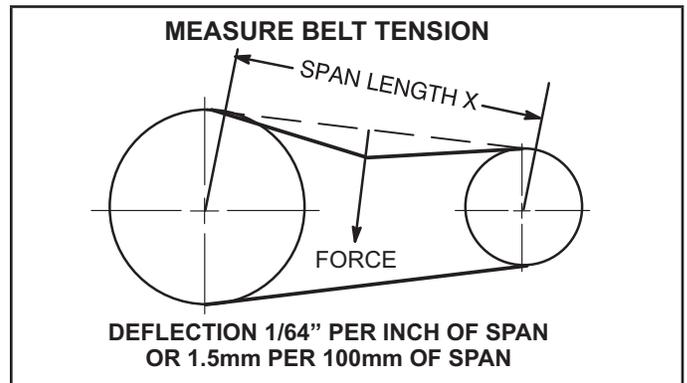

FIGURE 8
- 1 - Measure span length X. See FIGURE 8.
- 2 - Apply perpendicular force to center of span (X) with enough pressure to deflect belt 1/64" for every inch of span length or 1.5mm per 100mm of span length.